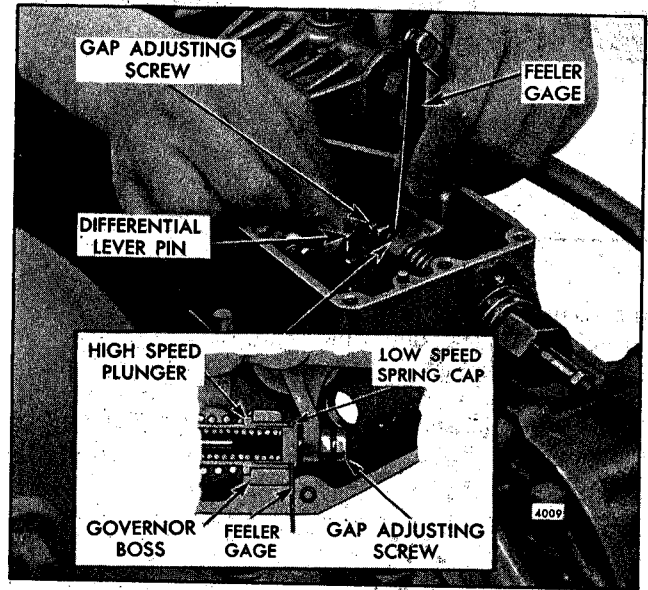

Fig. 2 - Checking Governor Gap
6. Check the gap between the low speed spring cap and the high speed spring plunger with a .0015" feeler gage. If the gap setting is incorrect, reset the gap adjusting screw (Fig. 2). If the setting is correct, the .0015" movement can be seen by placing a few drops of oil into the governor gap and pressing a screw driver against the gap adjusting screw. Movement of the cap toward the plunger will force the oil from the gap in the form of a small bead.